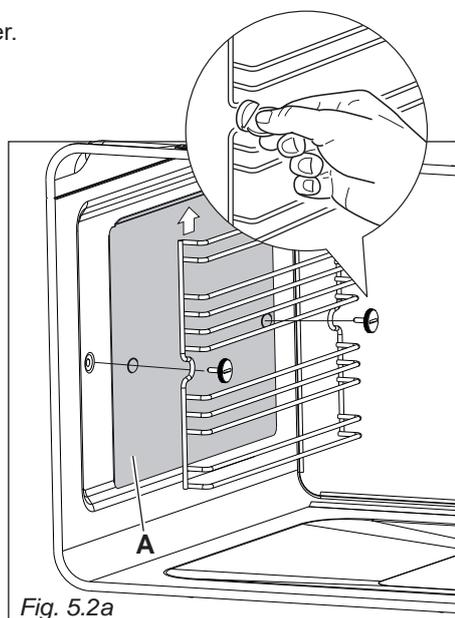

Fig. 5.2a
- Assemble the wire racks to the oven walls using the 2 screws (fig. 5.2a).
**In the models with catalytic panels supplied**, interpose the catalytic panels "A" with the arrow up (fig. 5.2a).
- Screw the side racks onto the oven wall (interposing the catalytic panels if supplied) (fig. 5.2a).
- Remove the side racks by unscrewing the fixing screws (fig. 5.2a).